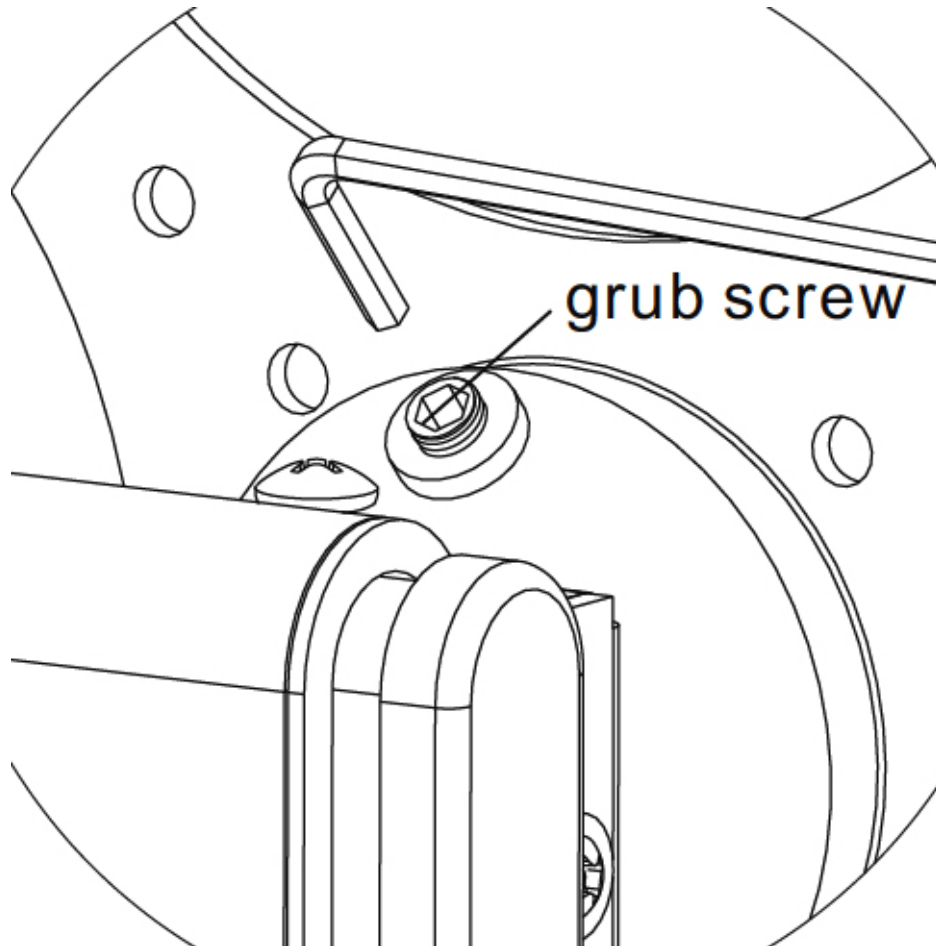

Figure 4b
- Adjust the monitor's tilt angle, use an **Allen Key (o)** to loosen the **Grub Screw**, then tighten the Grub Screw to fix the tilt angle as shown in **Figure 4b**.